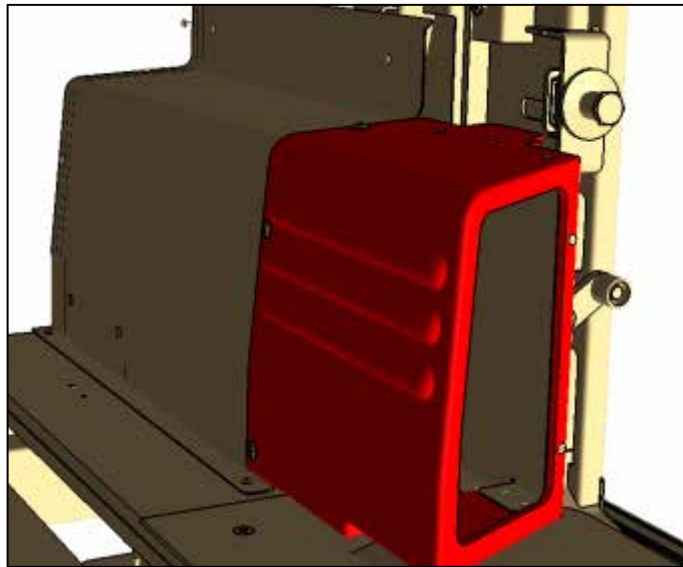
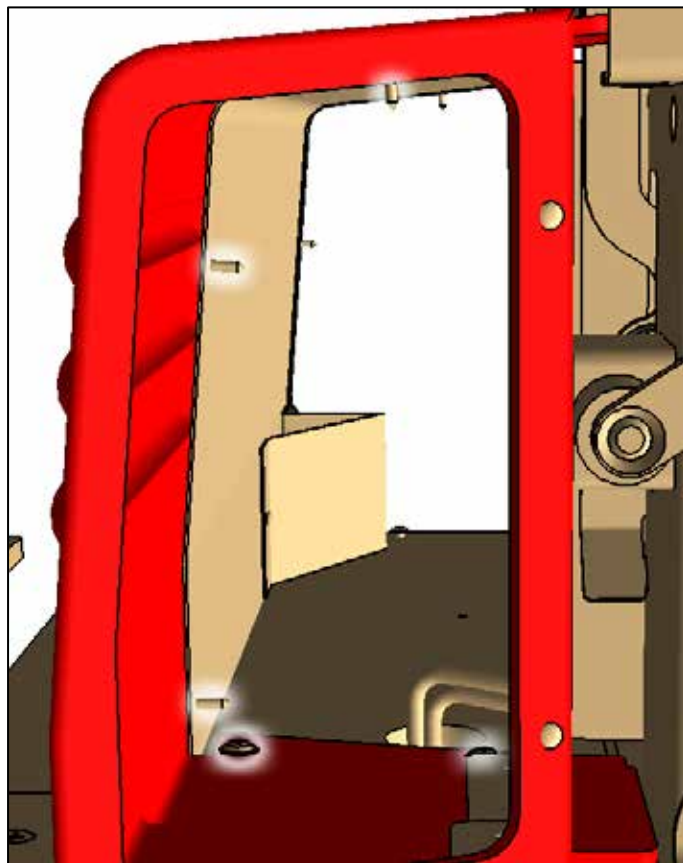

Figure 14
Figure 15
13. Remove the small duct section forward of the door.(Figure 14, Figure 15)